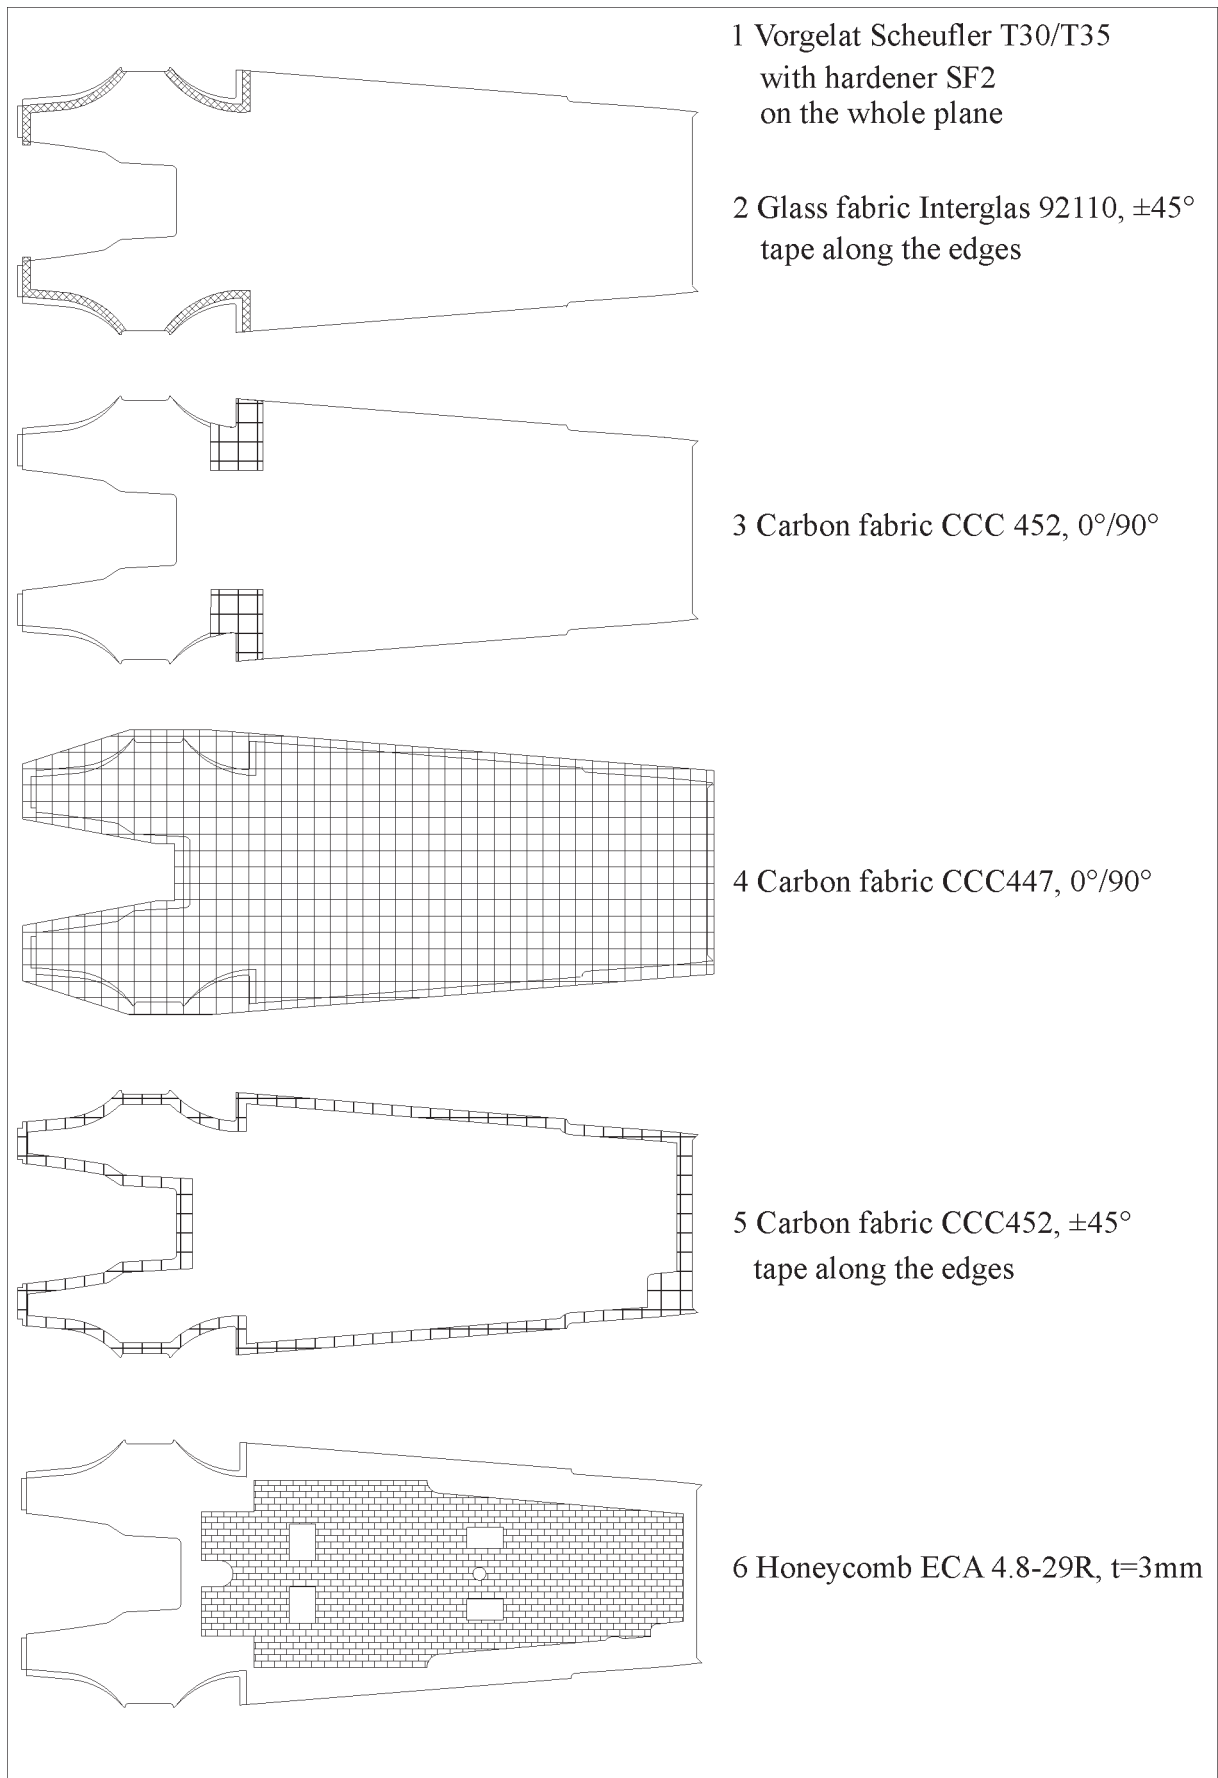

*Figure 7 Forward View on Bottom Side Firewall*
Position A and D of figure 7, where different parts converge (firewall, aluminium profile, bottom fuselage cover and exhaust area covering sheet) Position B and C, where a bent corner ends in a bore hole.
- 5 Install bottom cowling attachment screws (one on either side) without cowling present (see two outer circles in figure 7).
- 8 Clean areas (from inside and outside) with solvents at four positions pointed out by the arrows in figure 7. Immediately thereafter, dry these areas with a new dry cloth.